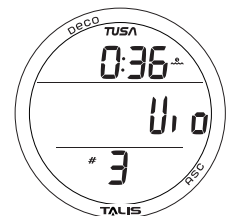

Fig. 70 - VGM SURF MAIN
**VGM Main (on surface)**, information includes (Fig. 70):